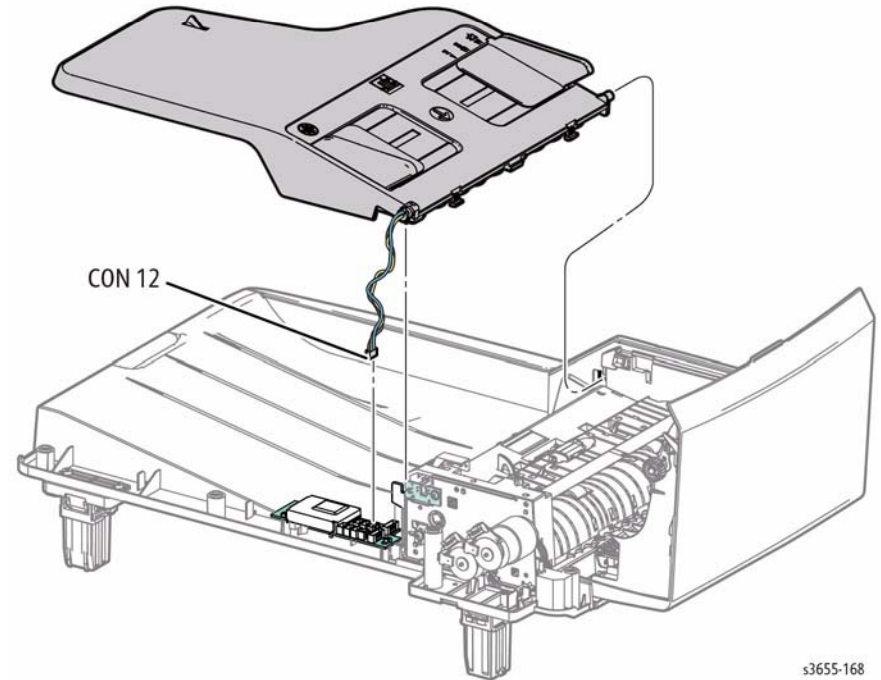

Figure 3 Remove the DADF Input Tray
4. Refer to Figure 3 to locate and cut the cable tie on the tray harness, then disconnect the tray. Lift and move right to remove the tray.